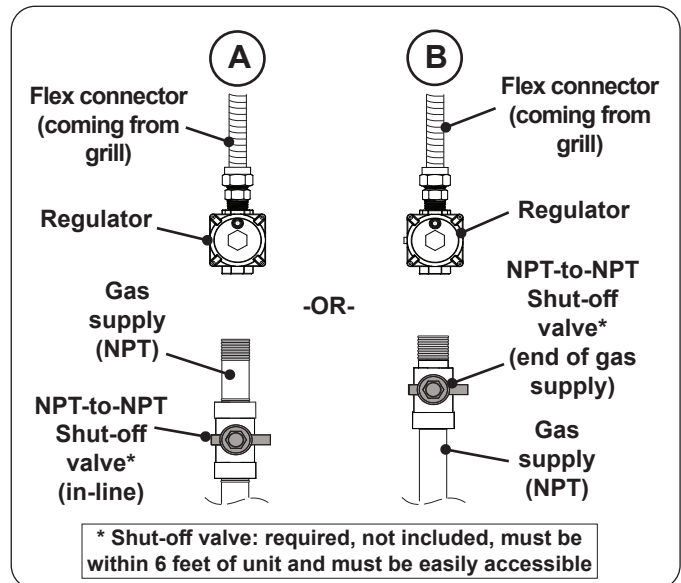

Fig. 28-1 Household propane & natural gas diagram
- Connect the regulator (on end of flex connector) to the gas supply (NPT) OR shut-off valve (NPT) using a pipe joint compound resistant to all gasses (see Fig. 28-1, A or B). Tighten securely.